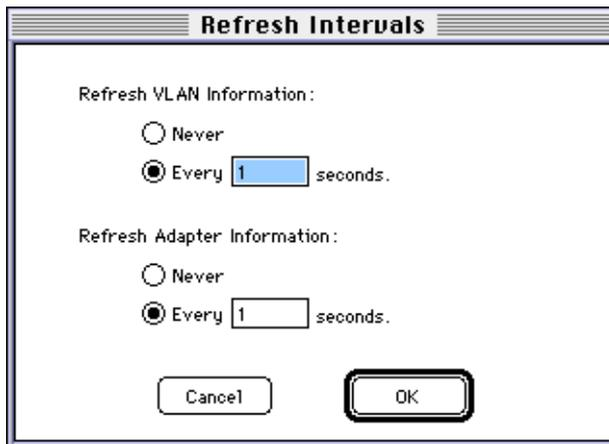

Figure 4.14 - Set Refresh Interval Dialog
Use the Set Refresh Interval dialog, shown in Figure 4.14, to set how often the InFOREmation Center automatically updates its displayed information.
1. Select the `Set Refresh Intervals...` menu option from the `Options` menu. The Set Refresh Intervals dialog box is displayed, as shown in Figure 4.14.